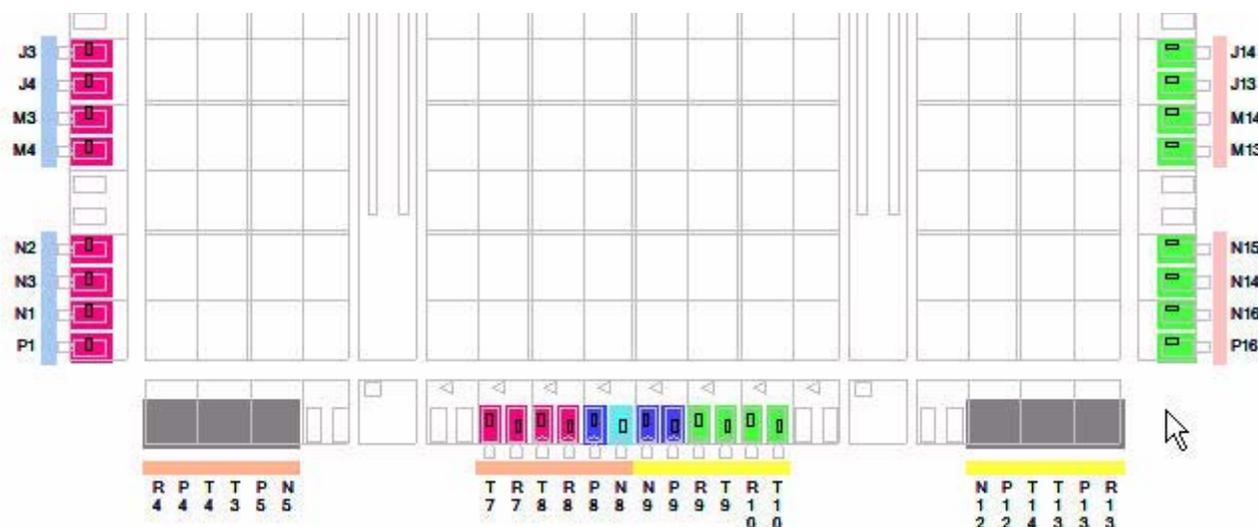

Figure 16: Signal placement suggestions
6. Place other signals based upon the suggestions in the following sections (Figure 16).